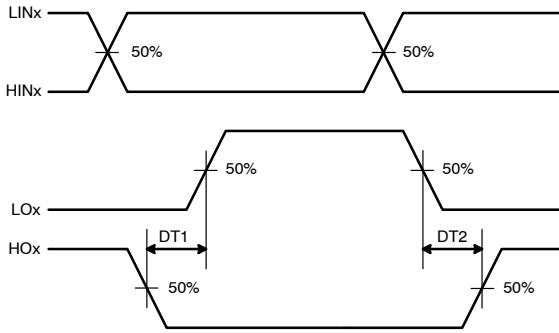

Figure 37. Internal Dead-Time Definitions
6. MDT is defined as $|DT1 - DT2|$ referenced to Figure 37.
Dead time is automatically inserted whenever the dead time of the external two input signals (between HINx and LINx signals) is shorter than internal fixed dead times (DT1 and DT2). Otherwise, external dead times larger than internal dead times are not modified by the gate driver and internal dead-time waveform definition is shown in Figure 37.